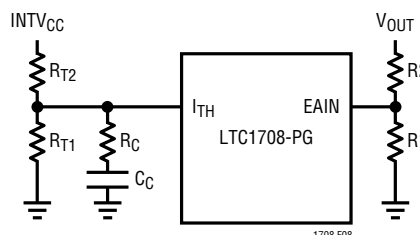

Figure 8. Active Voltage Positioning Applied to the LTC1708
Since V_{EAIN} is servoed to the 0.8V reference voltage, we can choose R1 in Figure 8 to have a maximum value to absorb this current.
Voltage positioning can be used to minimize peak-to-peak output voltage excursion under worst-case transient loading conditions. The open-loop DC gain of the control loop is reduced depending upon the maximum load step specifications. Voltage positioning can easily be added to the LTC1708 by loading the I_{TH} pin with a resistive divider having a Thevenin equivalent voltage source equal to the midpoint operating voltage of the error amplifier, or 1.2V (see Figure 8).
3. Do the LTC1708 feedback resistive dividers connect to the (+) terminals of C_{OUT} ? The resistive divider must be connected between the (+) terminal of C_{OUT} and signal ground. The R2 (Figure 8) connection should not be along the high current input feeds from the input capacitor(s).